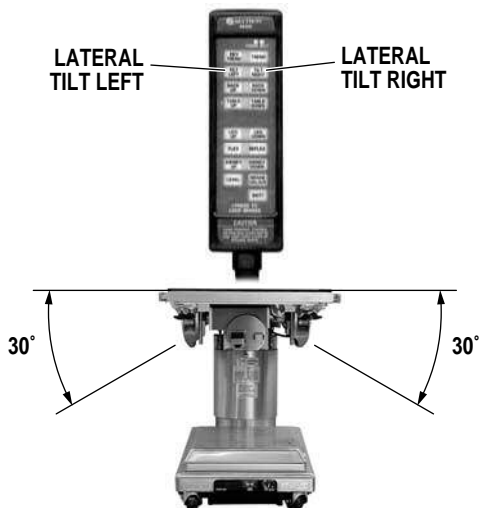

Figure 3-5. Lateral Tilt Positioning
c. Lateral Tilt. To achieve lateral tilt right (as viewed from the head end of the table), press the TILT RIGHT button (figure 3-5). To achieve lateral tilt left, press the TILT LEFT button. Tilt of up to 30° may be obtained.